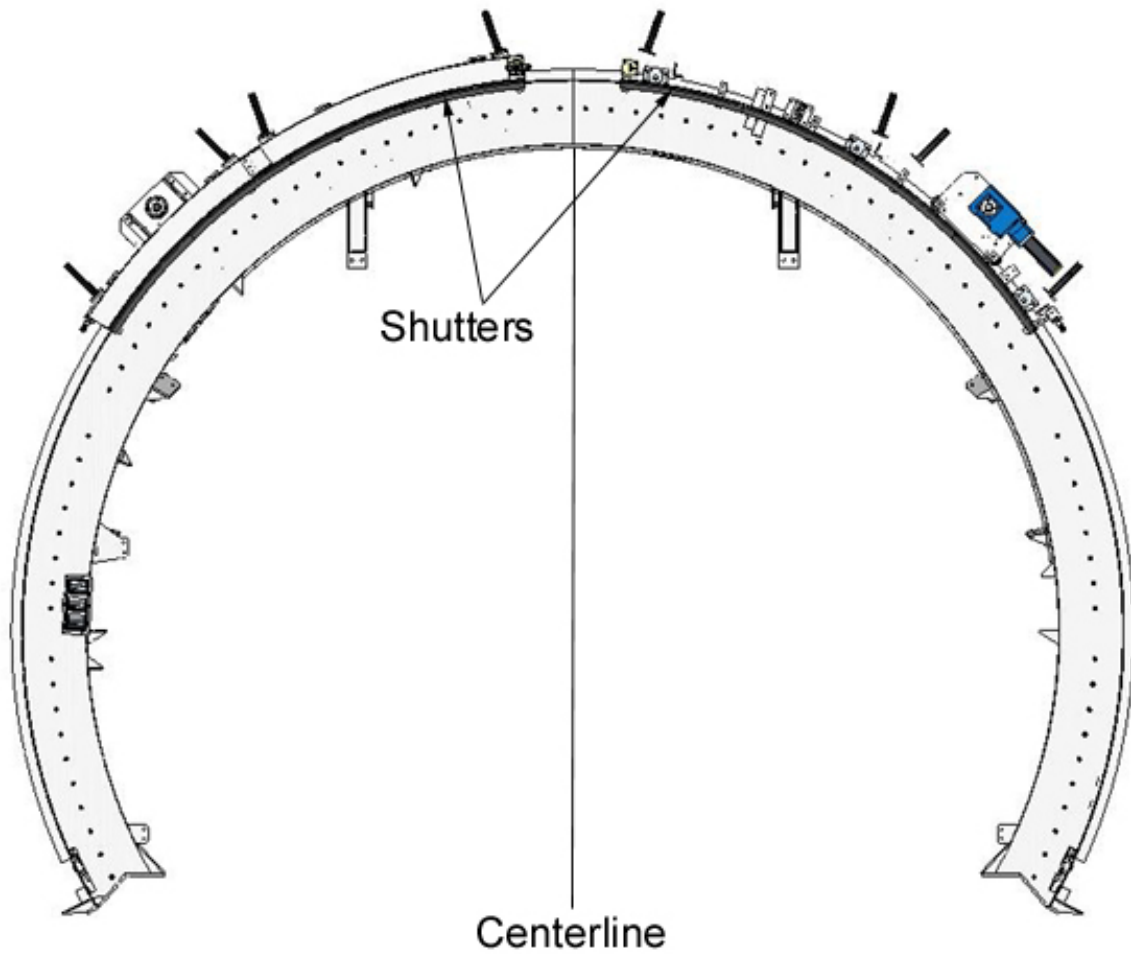

Figure 4.18
- a) Both shutters should then be run to an approx position as shown in Figure 4.18, the exact position is not critical, but they should be at a position that is equal about centreline as shown in Figure 21.